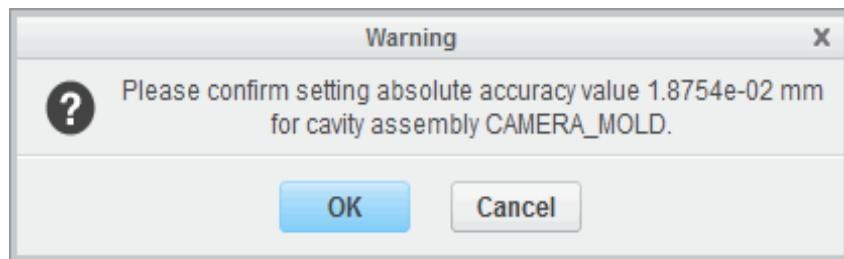

Figure 1 – Confirmation for Automatically Changing Accuracy
- Add the first reference model. If a discrepancy exists between the assembly model accuracy and reference model accuracy, the system issues a warning and prompts you to confirm changing the assembly model accuracy, as shown in Figure 1.